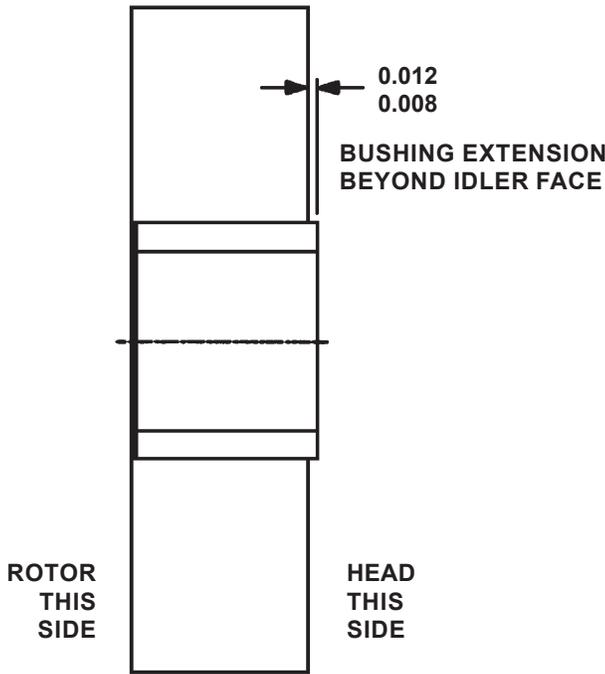

FIGURE 13
The R327A and R4327A (stainless steel) pumps have a special idler-bushing arrangement. See Figure 13.
The Carbon Graphite idler bushing extends beyond the idler face on one side of the idler. This side of the idler is placed toward the head, which allows the Carbon Graphite bushing to contact the head and provide clearance between the stainless steel idler face and the head. The Carbon Graphite bushing extension is 0.008 – 0.012” (See Figure 13).
8. The thermocouple or temperature probe must be installed in the bracket location shown in **Figure 13** below. Any other location may result in localized over or under heating.